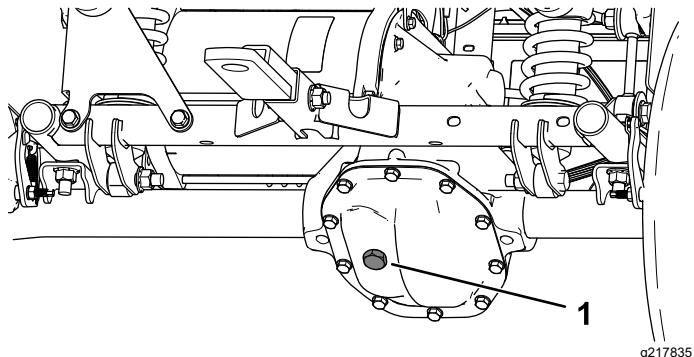

Figure 54
1. Remove the fill plug on the transaxle (Figure 54).
2. If the fluid level is low, remove the fill plug and add the specified fluid until it runs out of the hole (Figure 54).
6. Remove the fill plug on the transaxle and fill the transaxle with the specified fluid until it runs out of the fill hole (Figure 54).